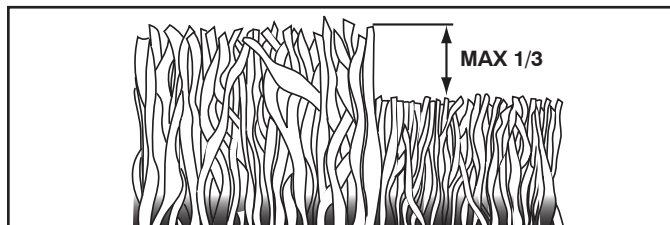

Fig. 31
- For best results, adjust the mower cutting height so that the mower cuts off only the top one-third of the grass blades (See Fig. 31). For extremely heavy mulching, reduce your width of cut on each pass and mow slowly.